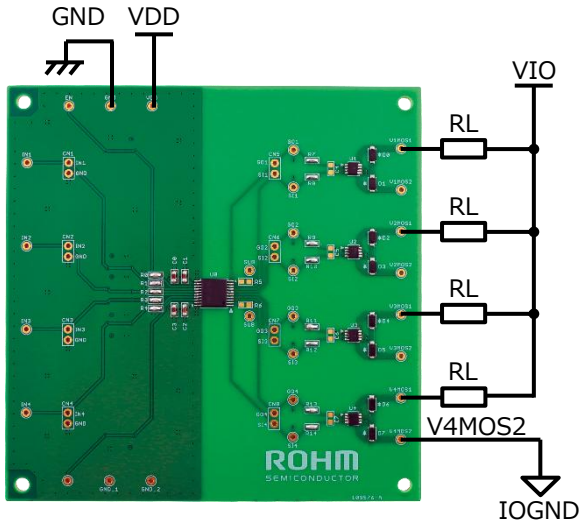

Figure 3. Power Connection
- Connect the output terminals of the regulated power supply between the VDD and GND terminals and between the VIO and IOGND terminals on the evaluation board, and then apply power (Figure 3).